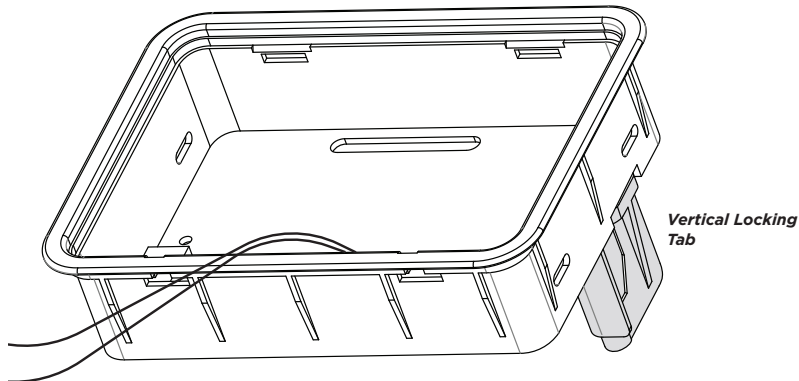

Figure 9: Placing the Backbox in the Wall
2. Place the backbox in the wall space you created with the locking tabs in a vertical position. See Figure 9.